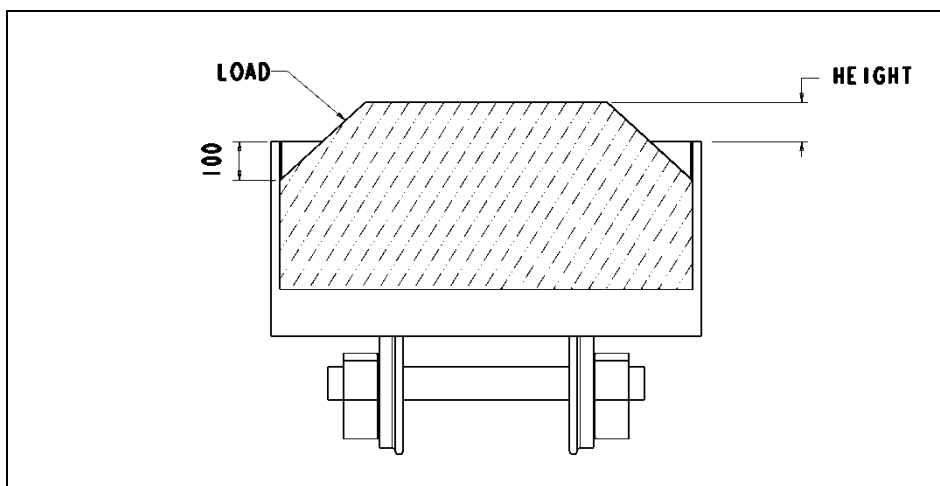

Figure 2 - Load centrally loaded across the width of the wagon.
- If the load protrudes above the sides of the wagon, the load against the sides must stop at least 100 mm below the top of the sides. Refer to Figure 2 and 3.